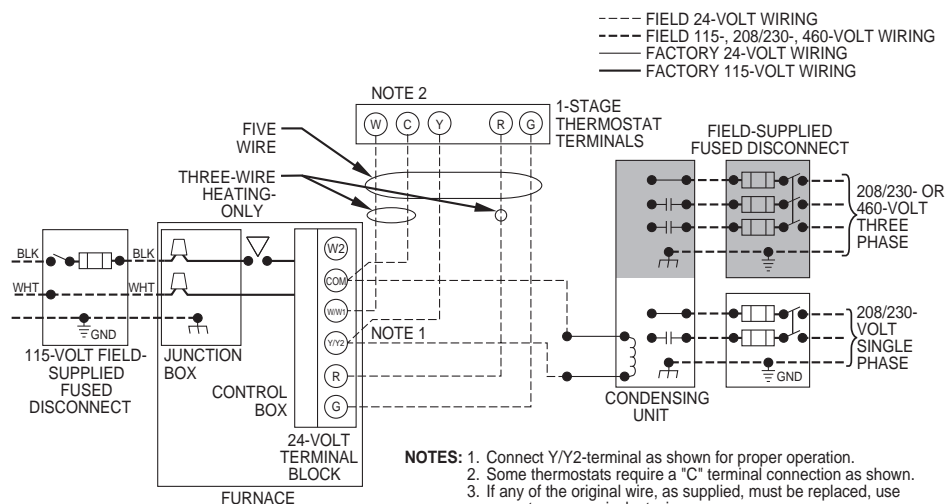
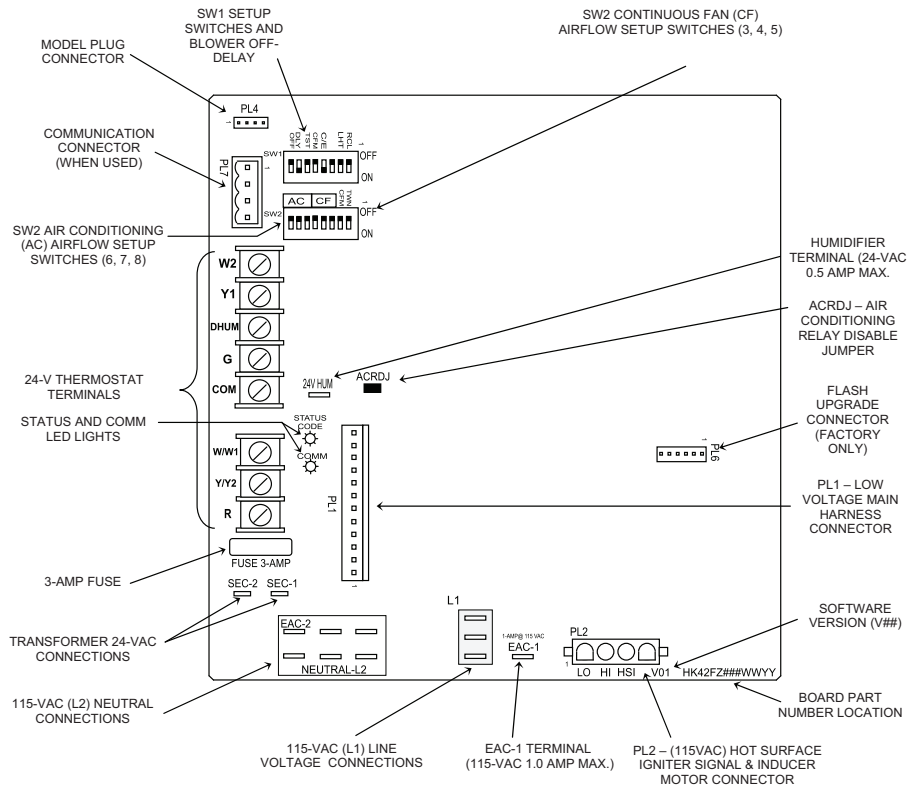

Fig. 24 – Field Wiring Diagram
Fig. 36 – Variable Speed Furnace Control for ECM Blower Motor
See Fig. 24 for field wiring diagram showing typical field 115-v wiring. Check all factory and field electrical connections for tightness.
5. Connect line voltage leads. (See Fig. 24).
Make field 24-v connections at the 24-v terminal strip. (See Fig. 24 - Fig. 36). Connect terminal Y/Y2 as shown in Fig. 28 - Fig. 35 for proper cooling operation. Use only AWG No. 18, color-coded, copper thermostat wire.
Connect an accessory Electronic Air Cleaner (if used) using 1/4-in female quick connect terminals to the two male 1/4-in quick-connect terminals on the control board marked EAC-1 and EAC-2. The terminals are rated for 115VAC, 1.0 amps maximum and are energized during blower motor operation. (See Fig. 36).
(if used) to the 1/4-in male quick-connect HUM terminal and COM-24V screw terminal on the control board thermostat strip. The HUM terminal is energized when blower is energized in heating. (See Fig. 36).